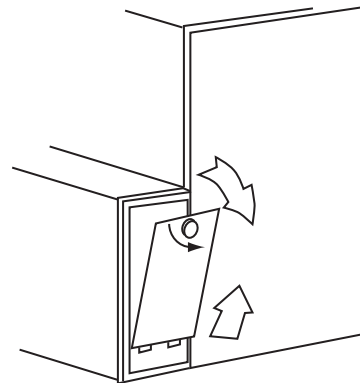

Fig. 21 - Removal of Filter Cabinet Door from Side Blower Cabinet
- a. Remove filter cabinet door. (See Fig. 21 and 22.)